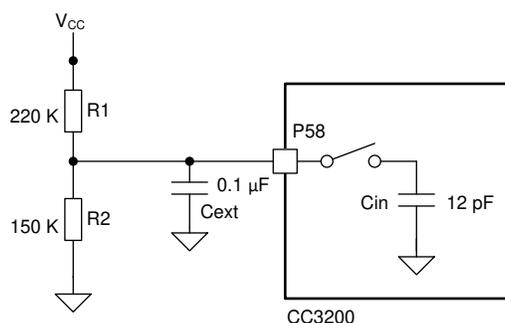

Figure 2-1. ADC Configuration
- The multimeter does some averaging on the input signal, whereas, the ADC is a spot measurement. These two characters make the ADC a bit difficult to work with. Figure 2-1 shows the recommended example for using our ADC to measure DC voltage.